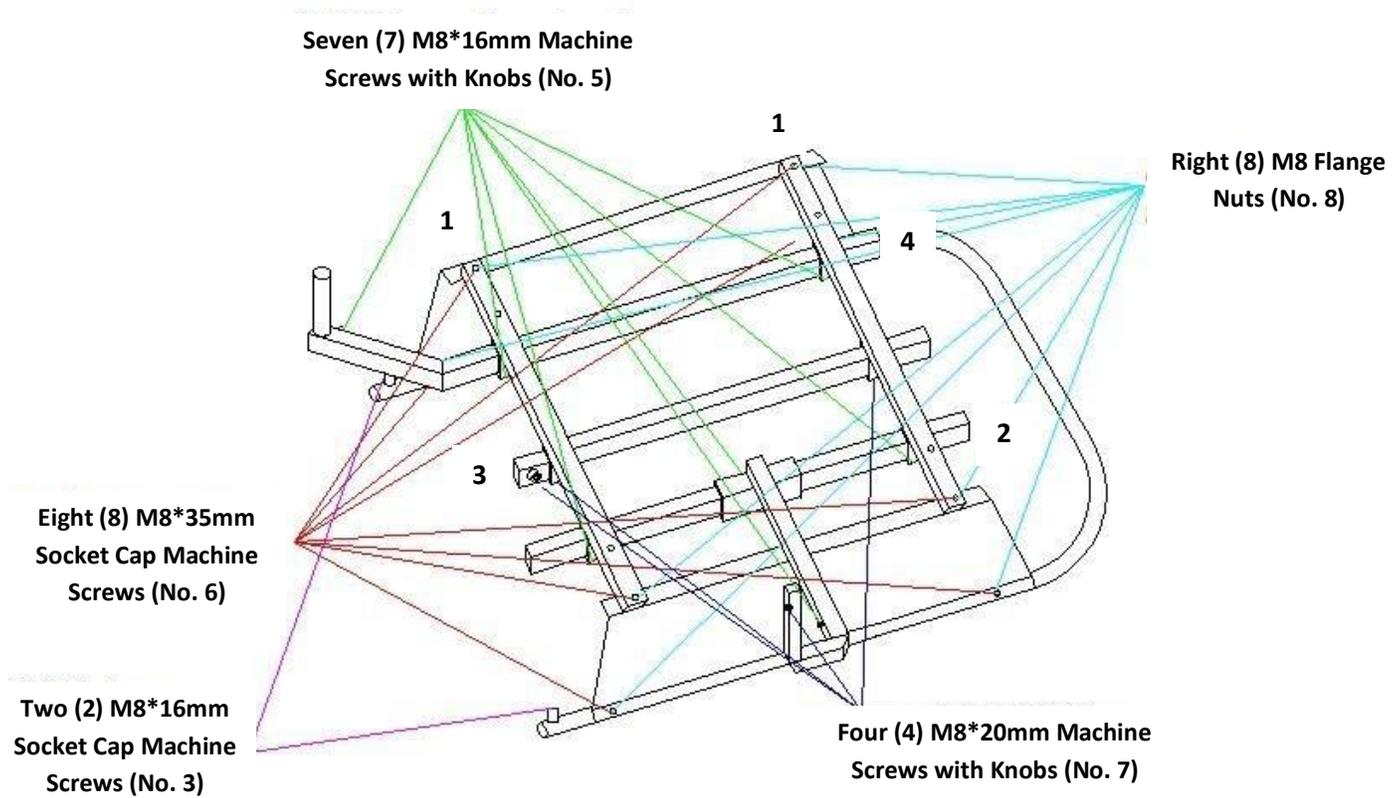

Figure 7: Seat Support Assembly
Continue the assembly of the seat base as shown in Figure 7 with the two cross braces (#1) and the left (#2), center (#3) and right (#4) square tubes. **Note that the seat support brackets attach to the OUTERMOST holes on the two cross braces and that the square profiles on the cross braces point DOWN.** You may need to apply some pressure on the seat support brackets and bend them outward as you insert the four (4) M8*35mm Socket Cap Machine Screws through the cross braces. Partially thread four (4) M8*20mm Machine Screw with Knobs into the cross braces.